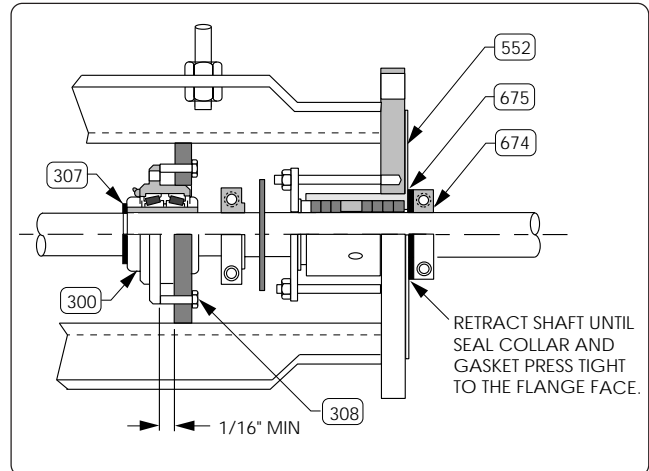

FIGURE C2.1
C2.4 Tighten the two Jacking bolts, (308) in the inner bearing plate so the bearing and shaft move out approximately 1/16" to 1/8" until further retraction becomes difficult. This tightness indicates that the seal collar, (674) and gasket, (675) have pressed tightly against the tank side of the mounting flange and a proper static seal has been attained. See figure C2.1 for retraction detail.